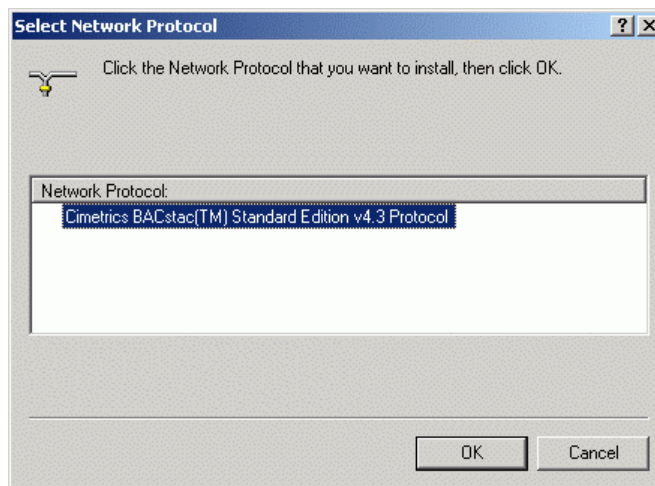

Fig. 2-14: Install BACnet Service
7. Choose "Cimetrics BACstac™" and install it by clicking on **[OK]** (see Fig. 2-14).